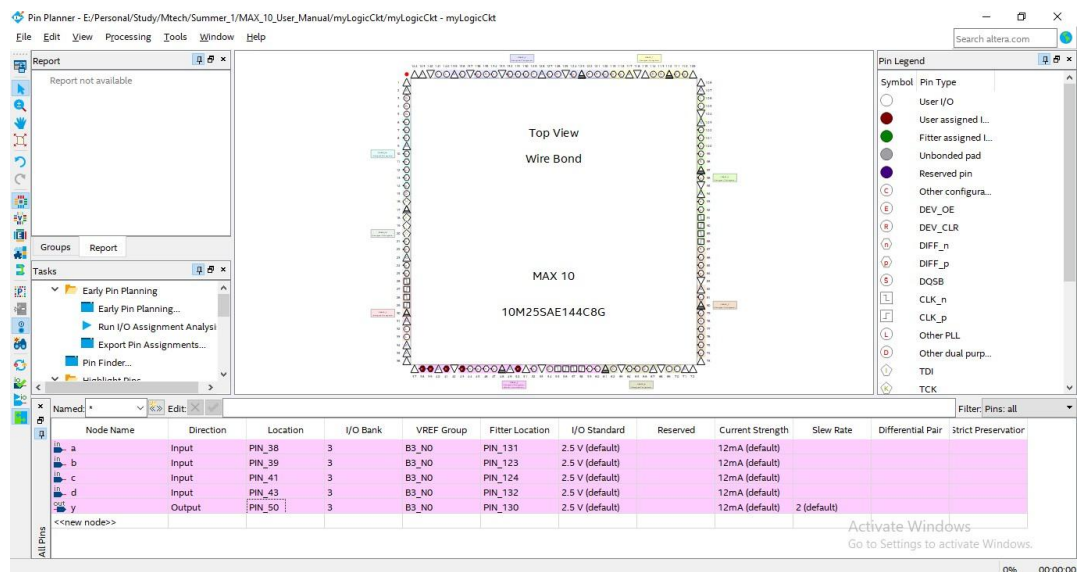

Figure 7: Quartus pin planner tool window
14. Go to Assignments → Pin Planner. A new window opens up, showing you the schematic of the device selected (in this case, MAX 10), and below, the signal lines that need to be pin assigned under All Pins section. Referring to the figure 7, In-front of a Node Name 'a' click in the blank space in column Location. Type 38 and automatically PIN 38 will appear.